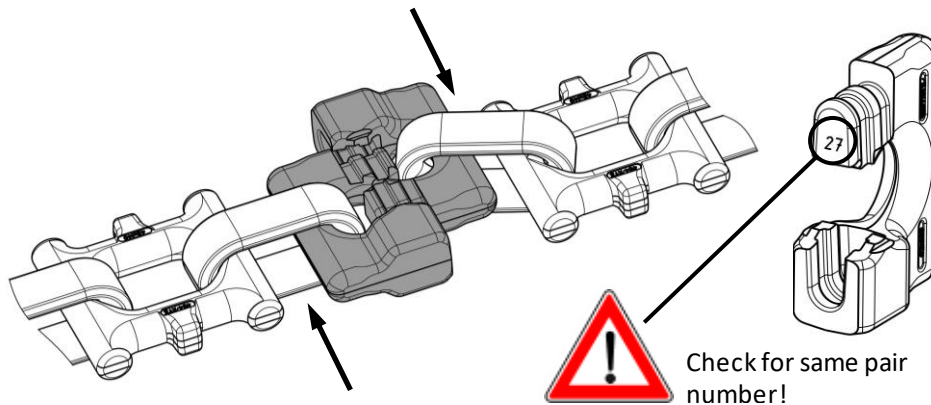

Figure 2: Assembly of connector halves
- Position the two connector halves and the chain ends to be connected as shown in Figure 2.